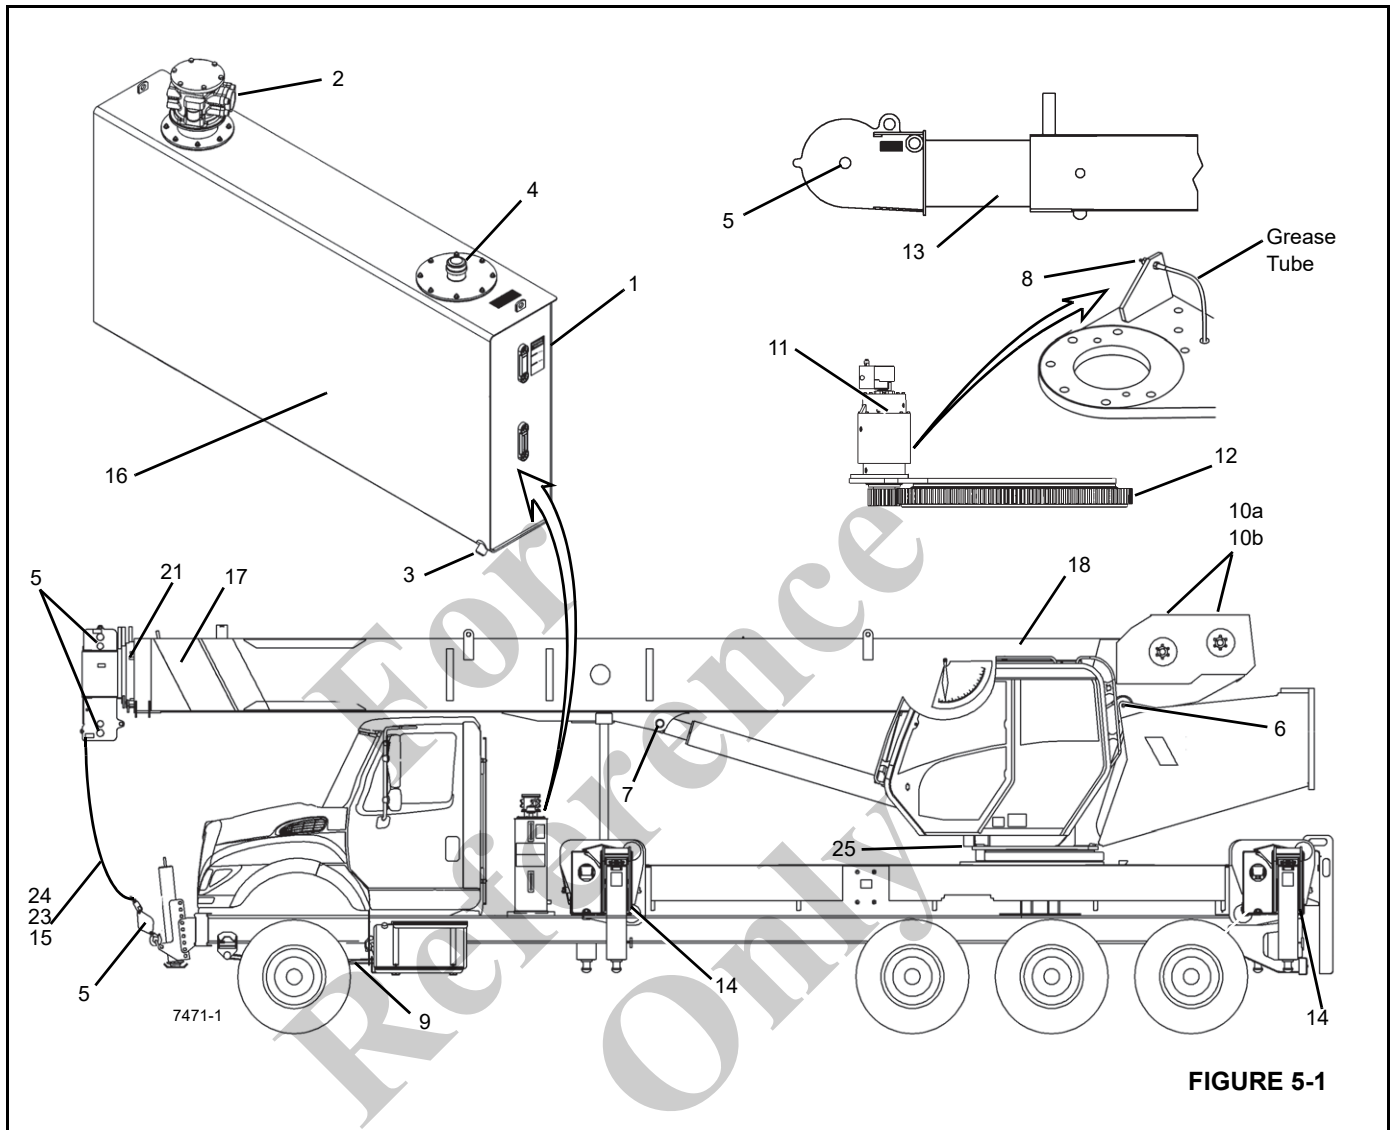

FIGURE 5-1
**NOTE:** The following describe the lubrication points and gives the lube type, lube interval, lube amount, and application of each. Each lubrication point is numbered, and this number corresponds to the index number shown on the Lubrication Chart (Figure 5-1). Lube description and symbols are found in tables below.